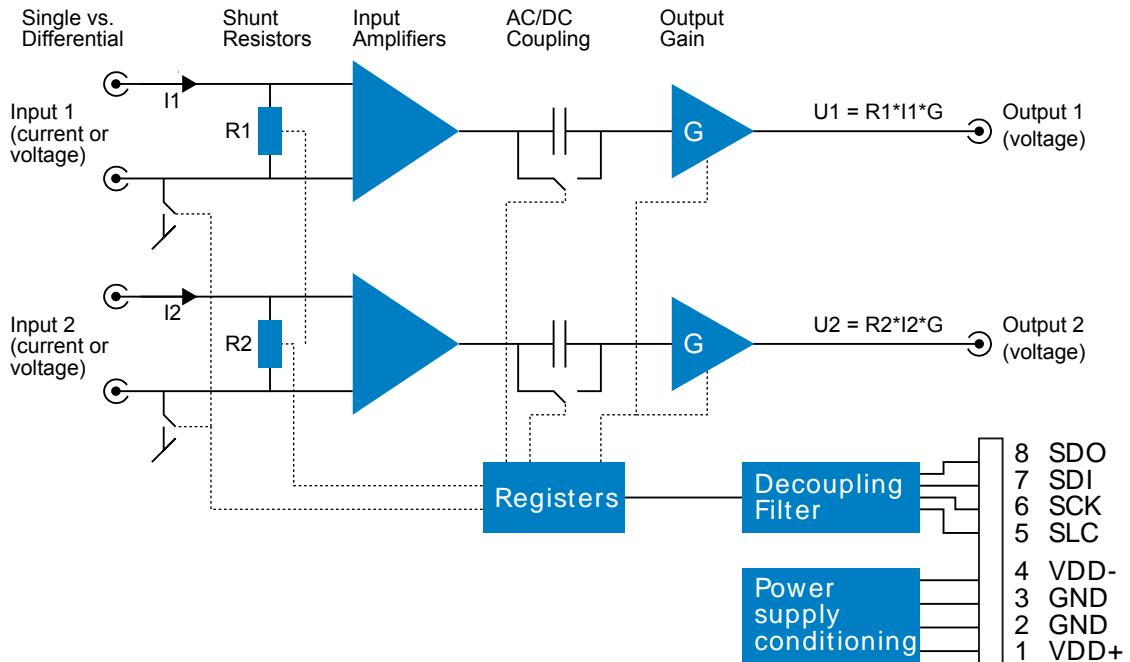

Figure 10.4. Detailed block diagram
**Shunt resistors:** HF2CA measures the current between the positive and the negative input terminal by measuring the voltage drop across a resistor, that is shunted between the inputs (see Figure 10.4). The supported resistor values are given in Table 10.3. It is also possible to remove all internal resistors and to support any custom resistor that is externally connected (see Section 10.4.4). When all resistors are removed (infinite impedance), then the HF2CA becomes a voltage amplifier with selectable gains 1 and 10.